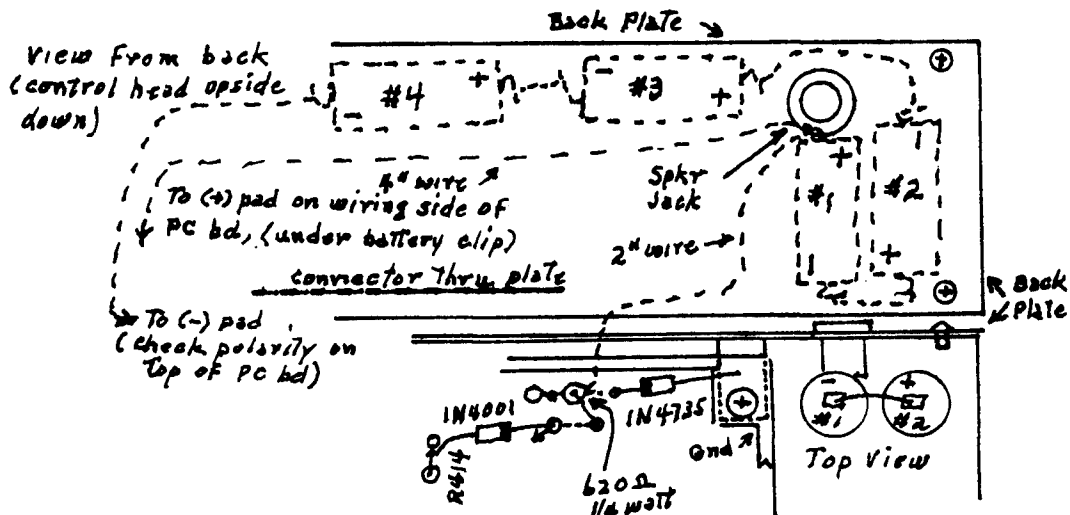

Figure 2. Added Component Locations.
8. Solder the 1N4001 to the end of R414 and into one of the holes, as shown in Fig. 2.
9. Insert the 620-ohm resistor wire into the hole shown connected to the 1N4001 and one of the other holes as shown in Fig. 2.
10. The 1N4735 is inserted into the fourth hole shown in Fig. 2 and laid flat on the pc board to the ground shown.
13. Connect the other two cells as shown in Fig. 2 and tape all metal showing.
14. Position batteries as shown in Fig. 2. Connect the plus and minus wires to the plus and minus pads on the wiring side of the pc board under the existing battery clips. Note that the (+) connection is nearest to the front panel of the control head, as marked alongside the battery clip.